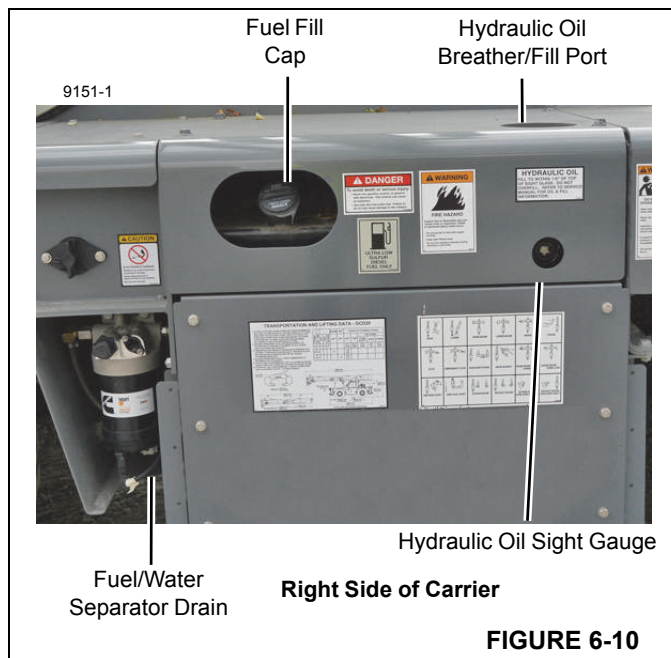

FIGURE 6-10
instrument panel. If necessary, fill the tank (Figure 6-10) with recommended fuel.
See Figure 6-10.
3. Check the oil level in the hydraulic oil level sight gauge (Figure 6-10).